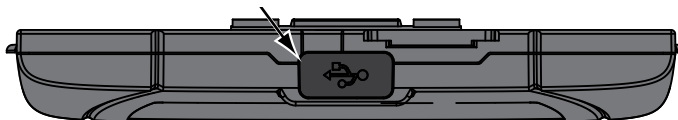

Figure 8-2 Scope Multimeter module USB jack location
3. Open the USB jack cover on the bottom of the Scope Multimeter module (Figure 8-2).